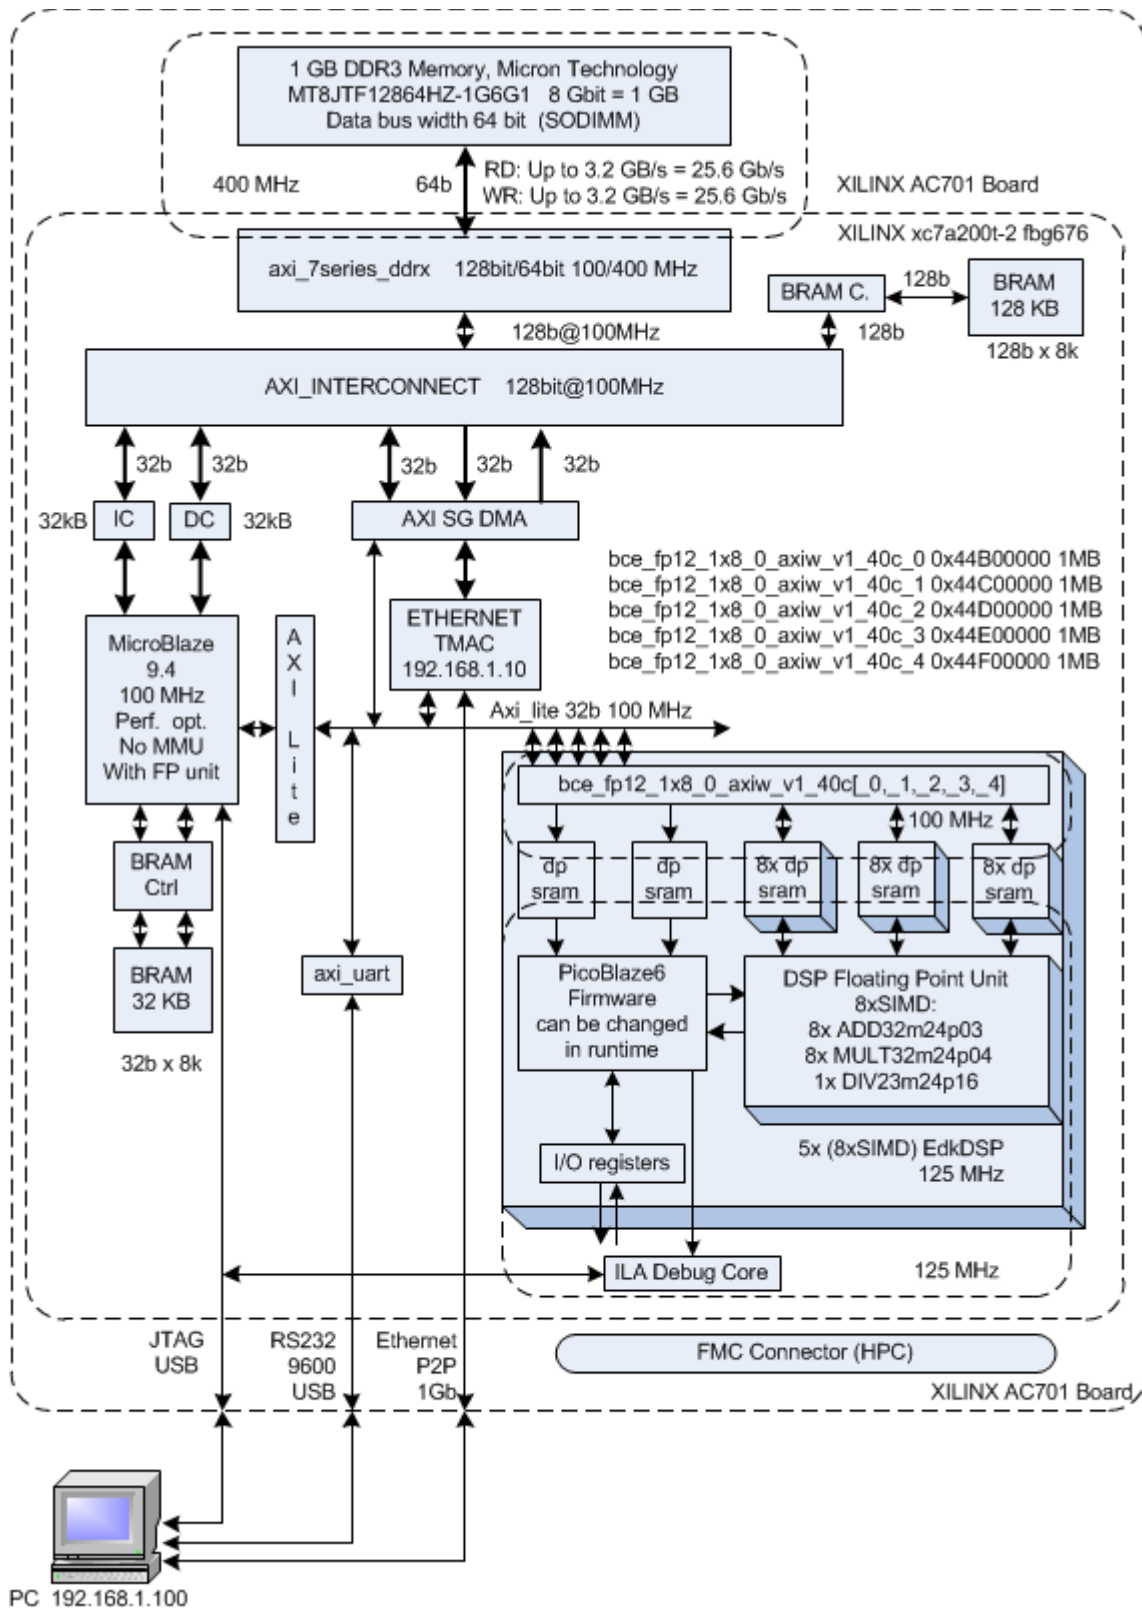
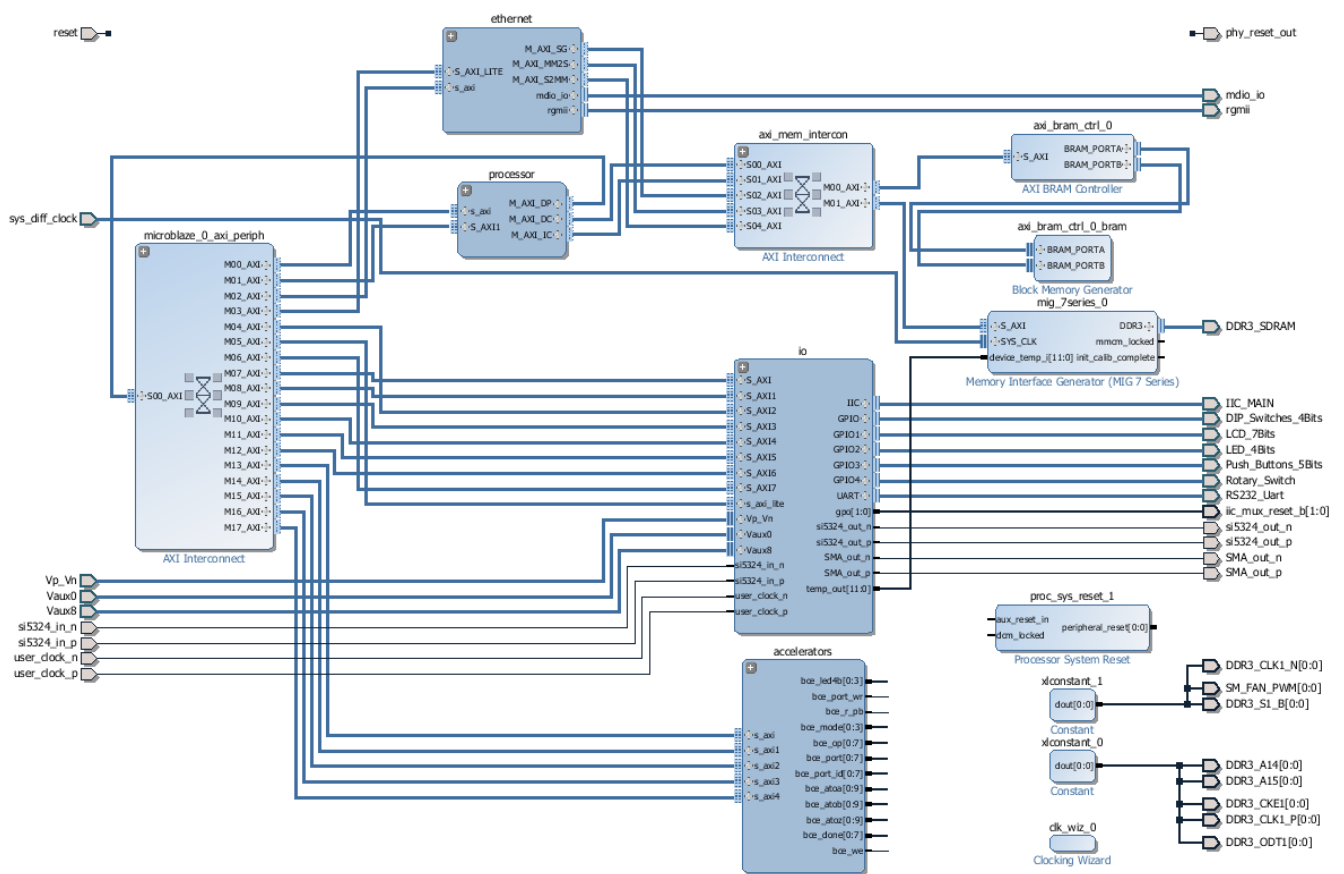
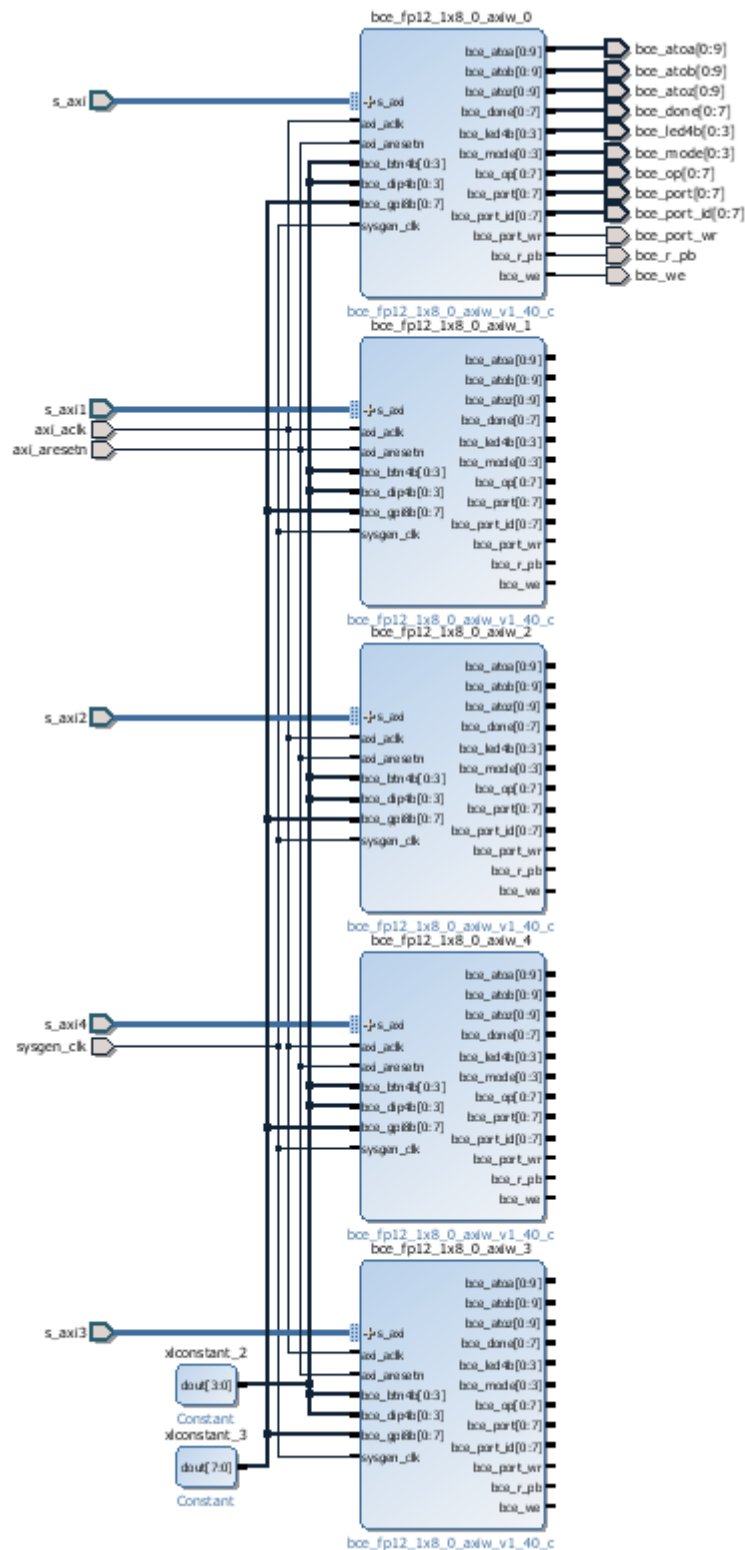
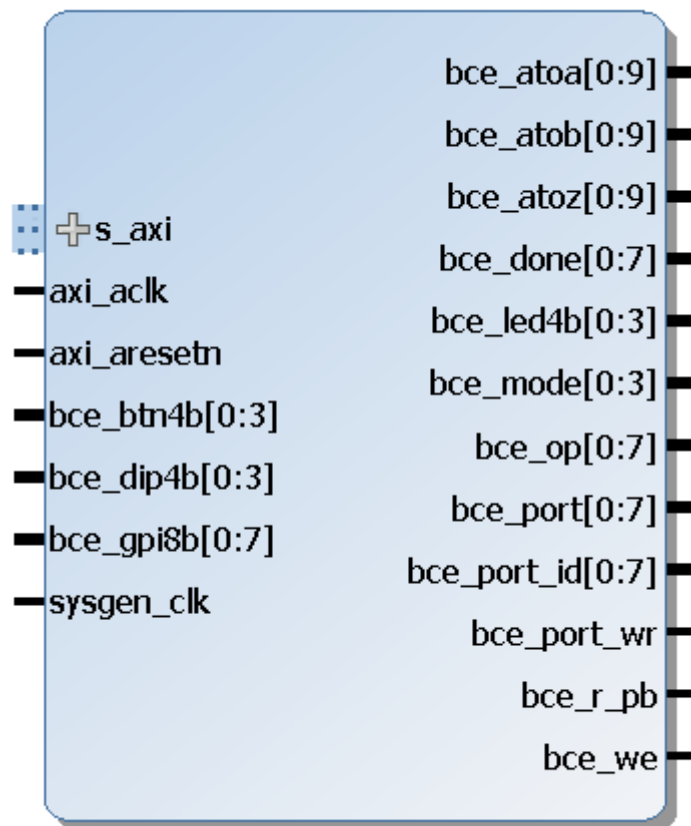

Figure 2: SoC design with 5 EdkDSP accelerator IPs on AC701 board
Figure 3: Hierarchical SoC design with EdkDSP IPs in the Vivado 2014.4 IP Integrator view
Figure 7: Accelerator subsystem with 5 EdkDSP IPs; first accelerators with ILA debug probes
Figure 8: EdkDSP accelerator IP in Xilinx Vivado 2014.4 IP Integrator
This application note describes how to set-up and use of 8 HW designs running on one MicroBlaze processor with five (8xSIMD) EdkDSP accelerators on Xilinx AC701 board. See Figure 1 and Figure 2 and Figure 62.
HW designs precompiled in Vivado 2014.4 combine MicroBlaze and five 8xSIMD EdkDSP accelerators. All designs demonstrate use of 8xSIMD EdkDSP floating point accelerators on 32 bit AXI-lite bus of the Xilinx MicroBlaze processor on the Xilinx Artix7 AC701 board. See Figure 2.
- All EdkDSP accelerators are memory mapped on the 32 bit AXI-lite bus. Each (8xSIMD) EdkDSP accelerator has reserved address space 1 MByte. See Figure 2.
- Figure 3 describes the SoC with MicroBlaze in hierarchical view.
- Hierarchical block "accelerators" contains five (8xSIMD) EdkDSP accelerators. See Figure 7.
- Single (8xSIMD) EdkDSP accelerator IP core is presented in Figure 8 with better resolution with the input, output and debug probe signals.
The SoC system described in Figure 2 and Figure 3 serves for evaluation of four different EdkDSP floating point accelerator IP cores **bce_fp12_1x8_0_axiw_v1_[10|20|30|40]**. Four grades [10|20|30|40] of the EdkDSP accelerator IP differ in HW-supported vector computing capabilities:
The debug probes (see Figure 2, Figure 3, Figure 7 and Figure 8) can provide visibility auto-generated addresses and the schedule of vector operation in the first (8xSIMD) EdkDSP accelerator IP core.
Resources used by the 4 presented designs without ILA are summarised in Figure 8 and by 4 designs with ILA in Figure 9